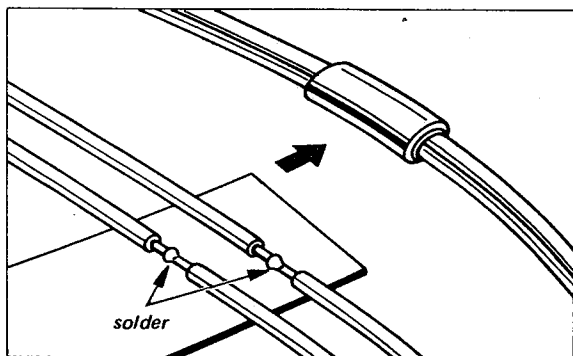

Fig. 2-14. Stereo lamp replacement
2. Cut the lamp leads and solder the lead wires to the new lamp as shown in Fig. 2-14.